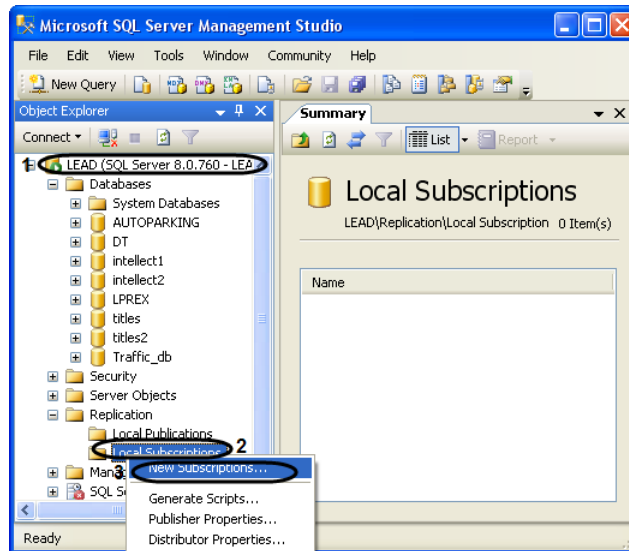

Fig. 9.2-2 New subscription
1. Connect to Publication server in the Microsoft SQL Server Management Studio, and then open the server node (Fig. 9.2-2).
2. Open «Replication» folder, and then click with a right mouse button over the «Local Subscriptions» folder (Fig. 9.2-2,2).
3. Select the point «New Subscriptions» in the opened contextual window (Fig. 9.2-2, 3).